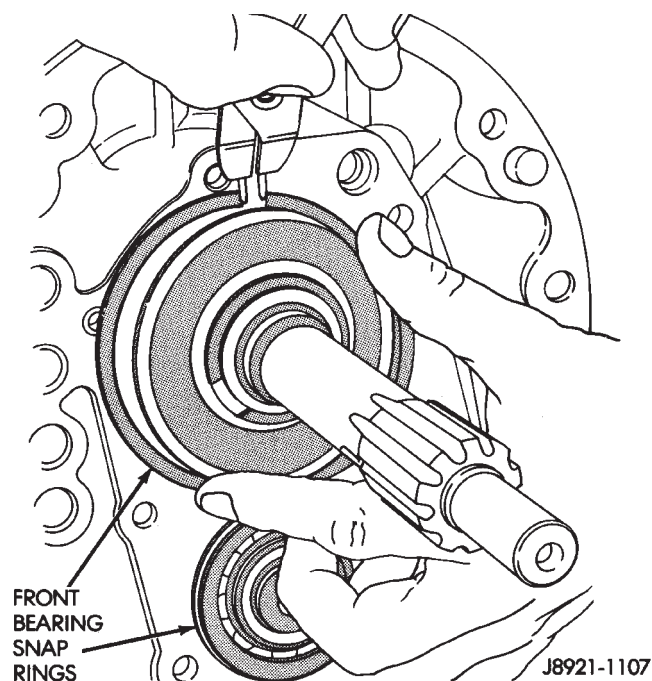
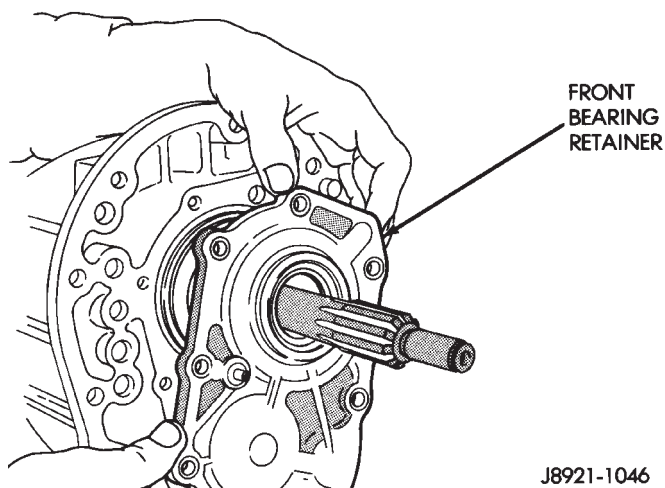

Fig. 113 Installing Front Bearing Snap Rings
Fig. 114 Installing Front Bearing Retainer
(6) Install front bearing snap rings (Fig. 113).
(7) Clean gear case and front bearing retainer sealing surfaces with wax and grease remover. Then wipe dry with a clean cloth.
(8) Install new seal in front bearing retainer. Then lubricate seal lip with petroleum jelly. **Installation depth for seal is 10.5 to 11.5 mm (0.413 to 0.453 in.).**
(9) Apply a 3 mm (1/8 in.) wide bead of Mopar Gasket Maker, or Loctite 518 to front bearing retainer sealing surface.
(10) Align and install front bearing retainer (Fig. 114). Be sure retainer is properly seated on case and bearings.